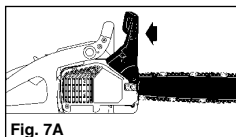

Fig. 7A
1. The Chain brake is **DISENGAGED** (chain can move) when **BRAKE LEVER IS PULLED BACK AND LOCKED** (Fig. 7A).